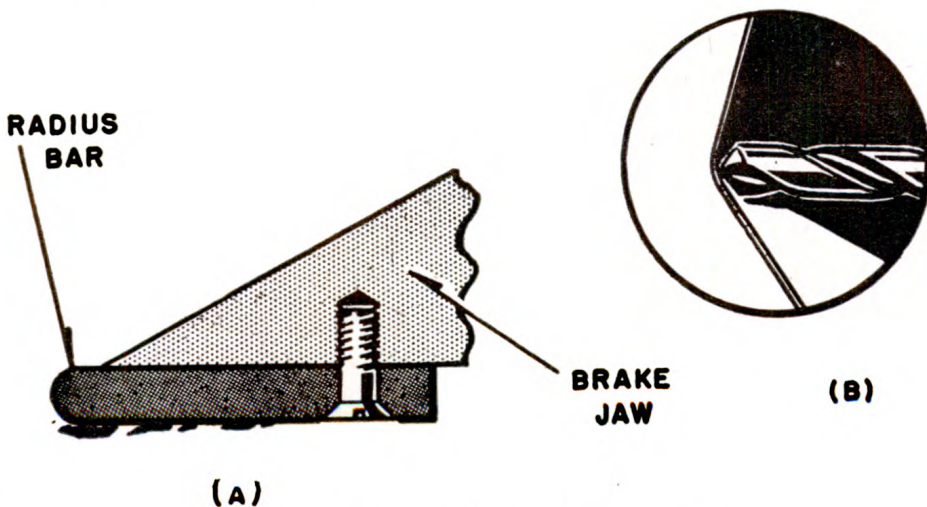

Figure 64.—Radius bar and check.
If you're using a cornice brake for this bending operation, radius bars will help you get accurate results. These are steel bars attached to the lower side of the clamping jaw of the cornice brake, as in figure 64 (A). They are machined to an exact thickness and radius, so that the bends they make will come out accordingly.
a desired radius, you can clamp pieces of sheet aluminum over the jaw of the brake, until the brake's nose has the radius you're after. When using this method, you can check for the accuracy of radius by inserting a rod of the right radius in a piece of alloy bent to the desired angle. Take a look at (B) of figure 64 to see this.